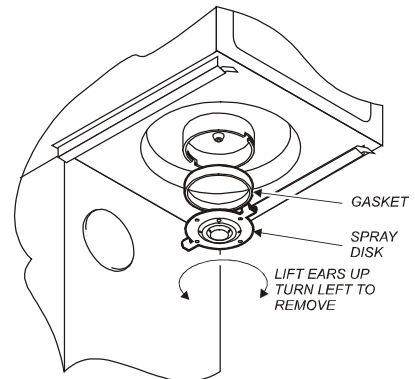

Fig. 8 Brew Head Cleaning
4. Remove the spray disk from the brew head (See figure 8):